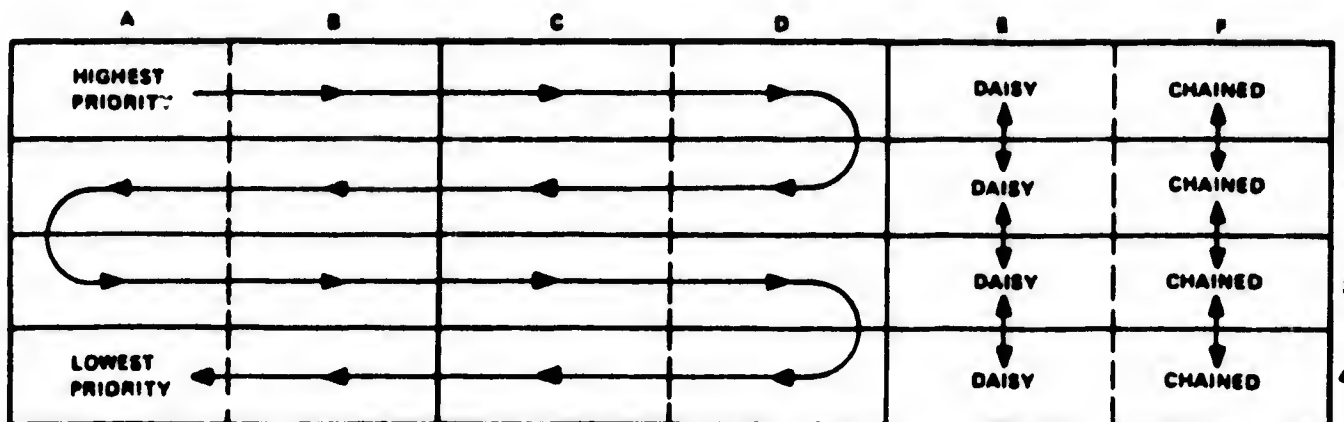

Figure 6 DDV11-C Backplane Priority Assignments
6.4.3 The M7954 Instrument Bus module is normally placed into slot C/D01 of the DDV11-C LSI-11 Bus backplane. If more M7954 modules are to be added, install into slots noting device priority. See Figure 6.